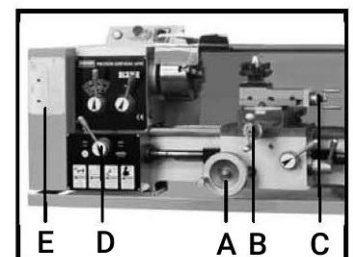

Fig. 12
The handwheels for the apron travel (A), cross travel (B) and top slide (C) can be operated for longitudinal or cross feeding (Fig. 12)
2. Use the table (E, Fig. 12) on the lathe to select the feed rate or the thread. Adjust the change gears if the required feed or thread cannot be obtained with the installed gear set.